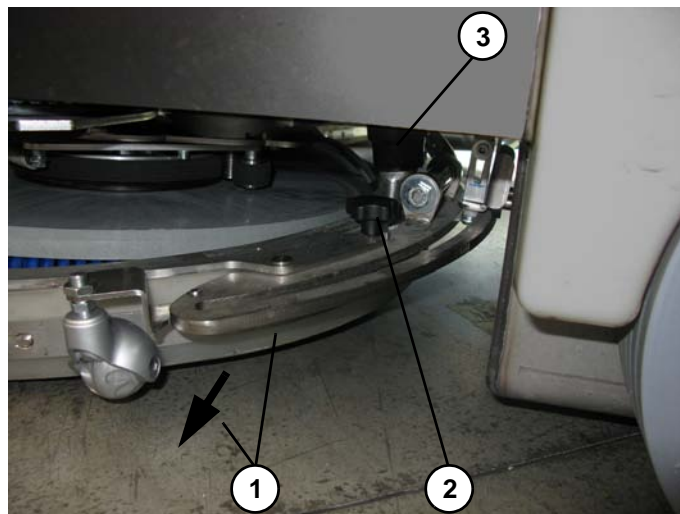

Figure 5-13
3. By acting of the left side of the wash-and-dry machine, with the squeegee in raised position, move slightly the squeegee outwards (1, **Figure 5-13**), then loosen its fastening knob (2).
4. Disconnect the suction pipe (3, **Figure 5-13**) from the squeegee.
5. Remove the squeegee (1).
Flexible hose (3, Figure 5-13 ) disconnected from the squeegee.	Connect it